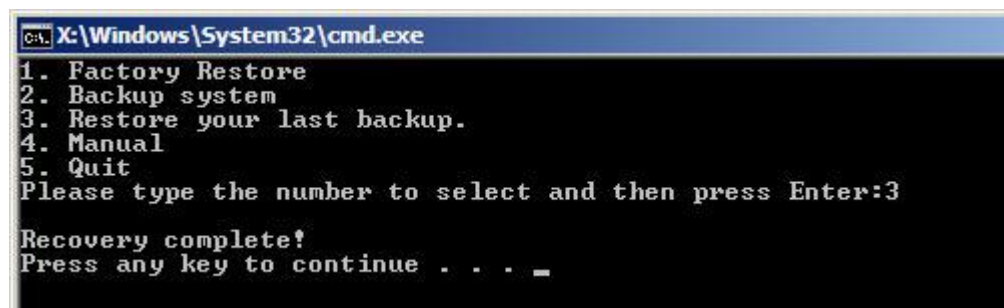

Figure B-41: Restore System Backup Complete Window
Step 3: The screen shown in **Figure B-41** appears when backup recovery is complete. Press any key to reboot the system.